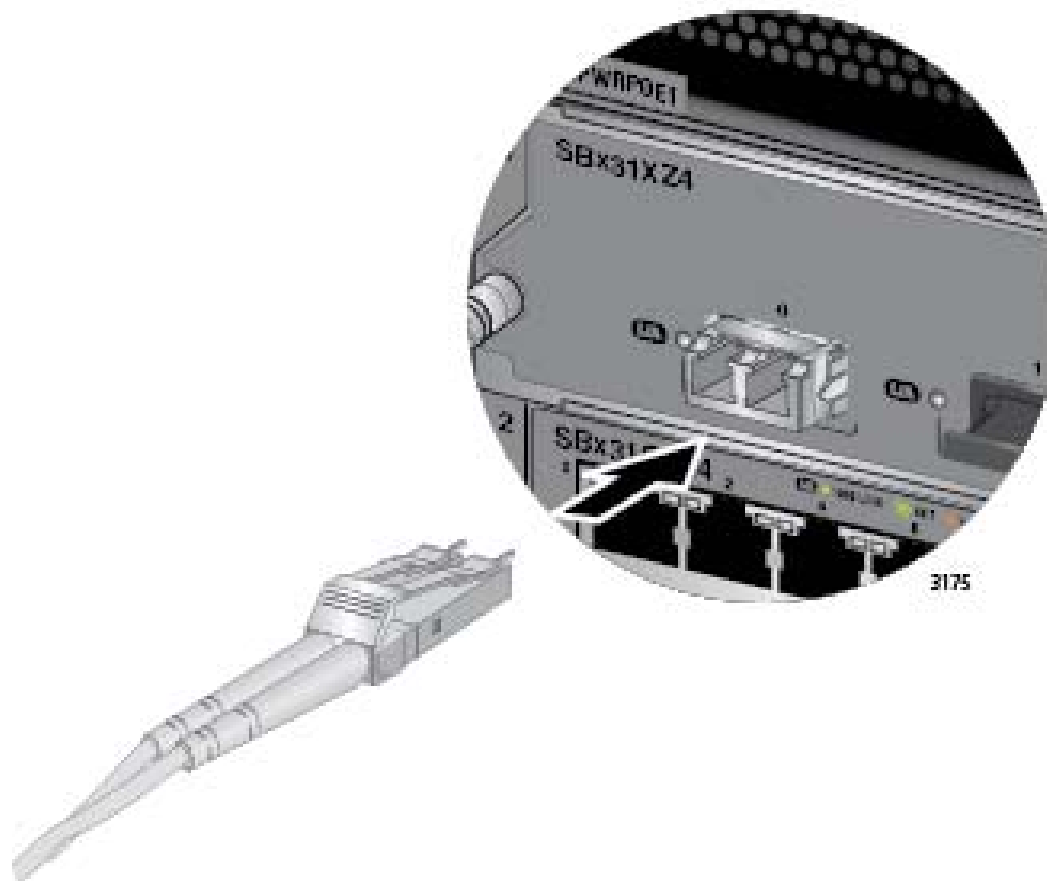

Figure 109. Attaching a Fiber Optic Cable to an XFP Transceiver in the AT-SBx31XZ4 Line Card
6. Connect the fiber optic cable to the port on the transceiver, as shown in Figure 109 on page 174. The connector should snap into the port.